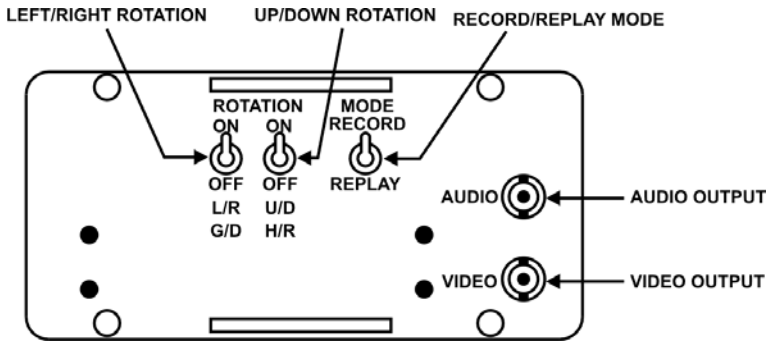
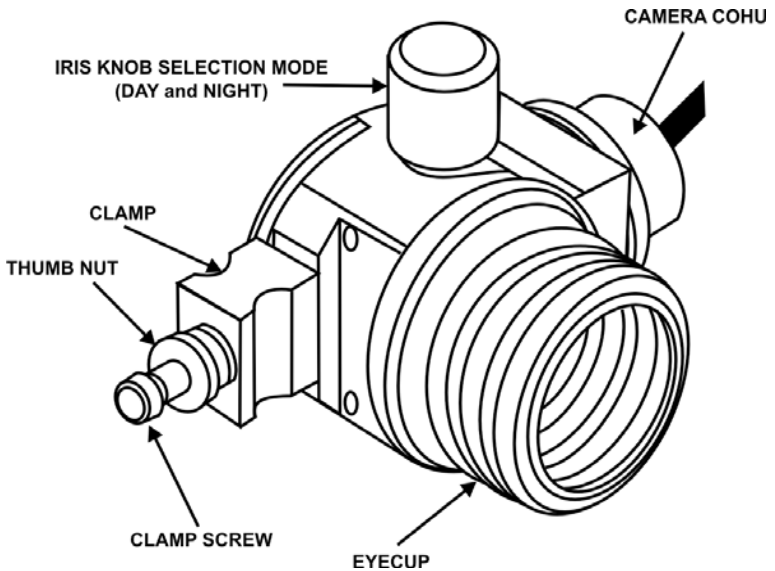

Figure 6-10: Transcoder
Figure 6-11: Cohu Camera
- b. **Transcoder** (see Figure 6-10) is mounted underneath an interface panel. The PAL/NTSC transcoder is designed to operate with Cohu camera model 4980 PAL and Sony portable 8 mm LCD video recorder. The system converts the real time PAL (European standard) video signal from the Cohu camera to an NTSC (North American standard) video signal in order to allow its recording and playback on the Sony VCR. It also provides the
- c. **Cohu camera** (see Figure 6-11) has three major parts: the camera control unit (CCU), camera head, and 50-foot cable. The CCU is mounted underneath an interface panel. The camera head (camera optics) forms part of the optical fixture. The 50-foot cable couples the camera head to the CCU. Two BNC connectors (for video and audio, see Figure 6-10) are provided on the interface panel for audio/video playback on an external television.
(see Figure 6-10) to orient the video image with the actual scene.
- f. Switch the PAL/NTSC transcoder mode switch to “RECORD” position (see figure 6-10).
- (1) if the image is slightly rotated, adjust the ETSVCS optical fixture on its rotating axis;
- (2) if the image is rotated up and down, switch the PAL/NTSC transcoder U/D rotary switch to the other position (see Figure 6-10); and
- (3) if the image is rotated left and right, switch the PAL/NTSC transcoder L/R rotary switch to the other position (see Figure 6-10).
- i. For VCR replay, set the PAL/NTSC transcoder mode switch to “REPLAY” (see Figure 6-10).